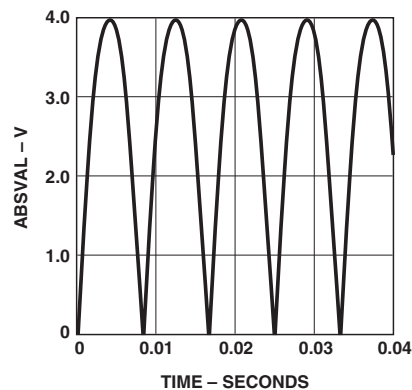

Figure 24. ABSVAL with 1 phase.
4.6: Why is gain defined as <math>V_{REF}/504</math> mV, not <math>V_{REF}/512</math> mV as expected, based on Figure 24?	Ideally gain would be $V_{REF}/512$ mV, however, due to internal settling characteristics, the average effective value of the internal 256 mV reference is 252 mV.